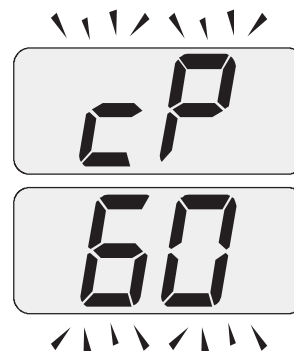

Figure 8.8
- 20 Press key "G" to vary the output in chimney sweep mode: when the display shows the letters **cP** that alternate with the heating water temperature value (e.g. 60), the "chimney sweep function" is at maximum output in heating mode (Figure 8.8);